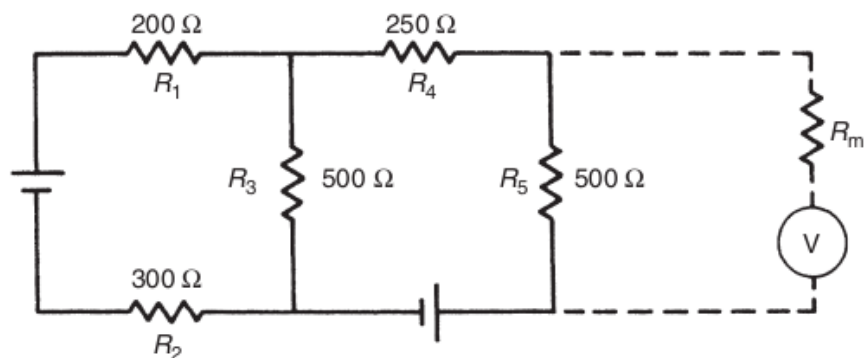

Figure 4: Circuit for Exercise 5
In the circuit shown in Figure 4, the resistor values are given by $R_1 = 1000\ \Omega$; $R_2 = 1000\ \Omega$; $V = 20\ \text{volts}$. The voltage across AB (i.e., across R_2) is measured by a voltmeter whose internal resistance is given by $R_m = 9500\ \Omega$.
5. If the parameters in Figure 4 have the following values, $R_1 = 5000\Omega$; $R_2 = 10000\Omega$; what value would the voltmeter internal resistance R_m need to be in order not to exceed a measurement error of 1%?